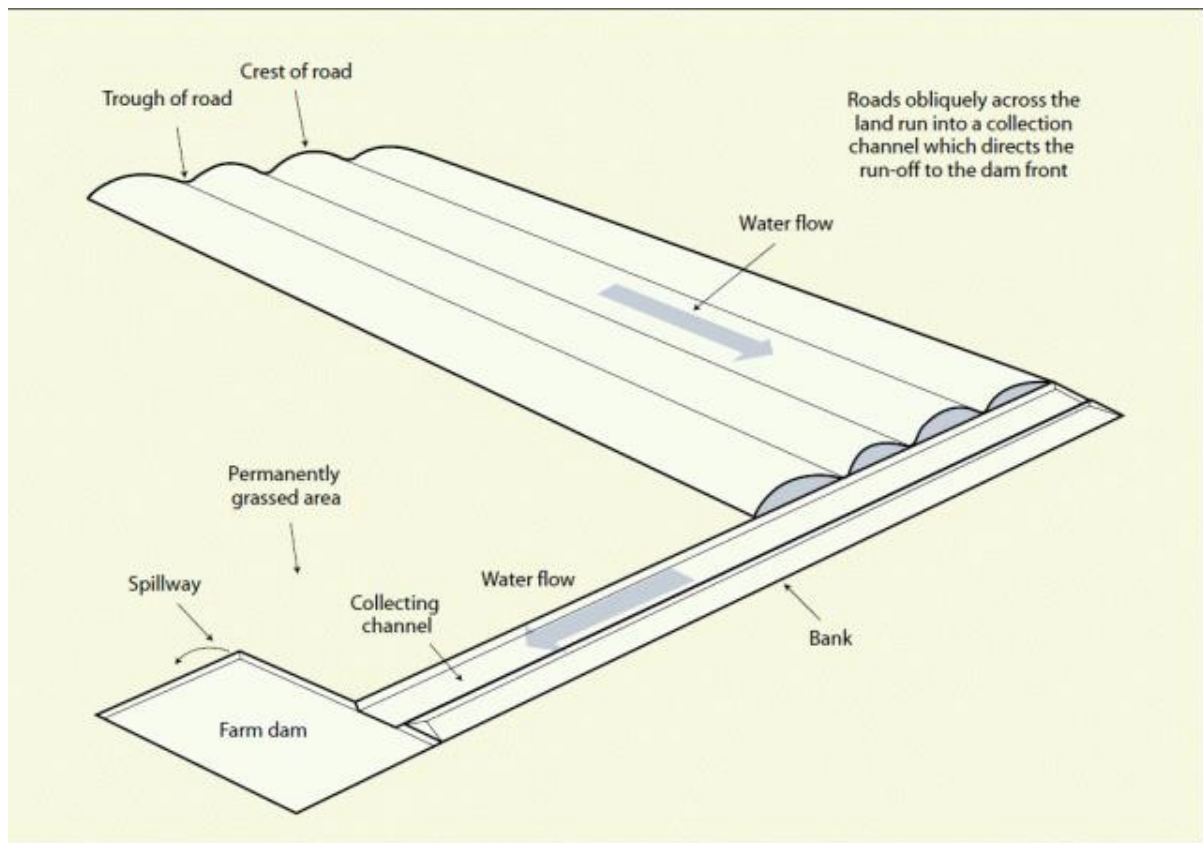

Figure 2: Recommended layout for ground slopes greater than 1:80 and less than 1:30
2. On gentle to moderately sloping ground with slopes from 1:80 (1.25%) to 1:30 (3.5%) and where no stable waterway exists. The roads are constructed diagonally across the slope and discharge into a collecting channel running in the opposite direction (Figure 2). The collecting channel directs run-off to the front of the dam.